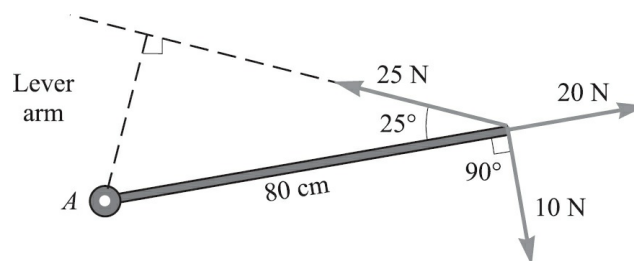

Fig. 5-2
- 5.1 [I] Imagine a bar of steel 80 cm long pivoted horizontally at its left end, as depicted in Fig. 5-2. Find the torque about axis-A (which is perpendicular to the page) due to each of the forces shown acting at its right end.